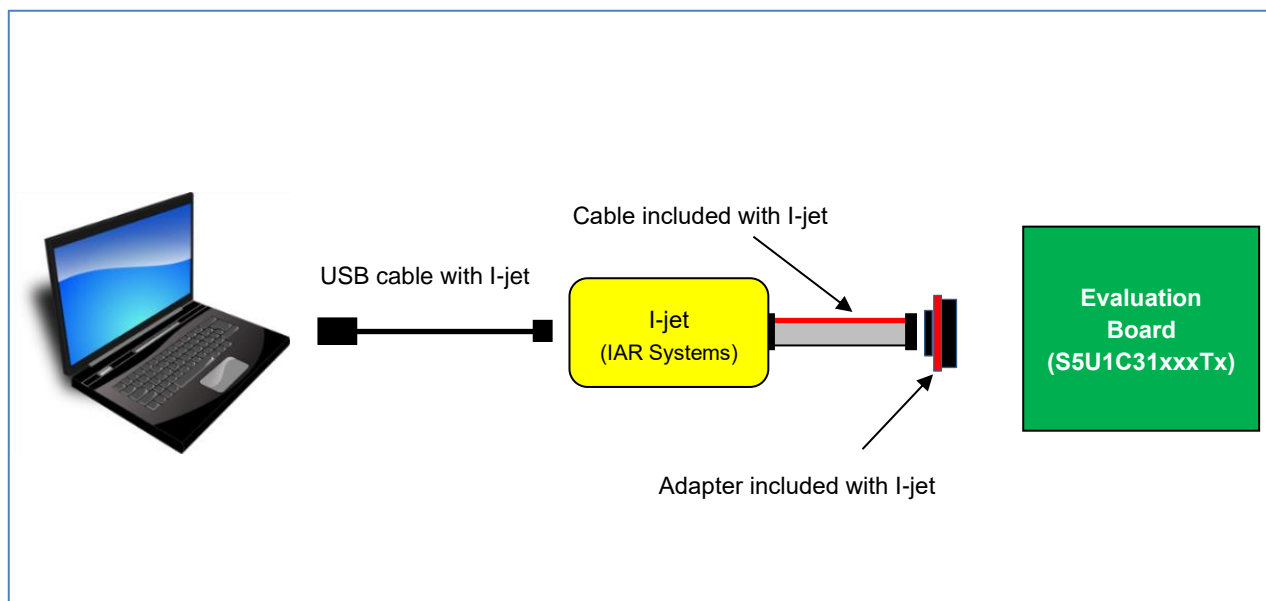

Figure 3.3.1.1 Hardware Connection using I-jet\*1
- (1) Connect I-jet to the PC with IAR EWARM installed using the USB micro cable included with I-jet. This enables the PC to automatically install the device driver.
- (2) Connect I-jet to the evaluation board(ex. S5U1C31xxxTx) using the cable and adapter included with I-jet. (see Figures 3.3.1.1)
\*1: Figure 3.3.1.1 shows an example when the evaluation board (S5U1C31xxxTx) works using 5V power supply supplied from a debug probe (I-jet).